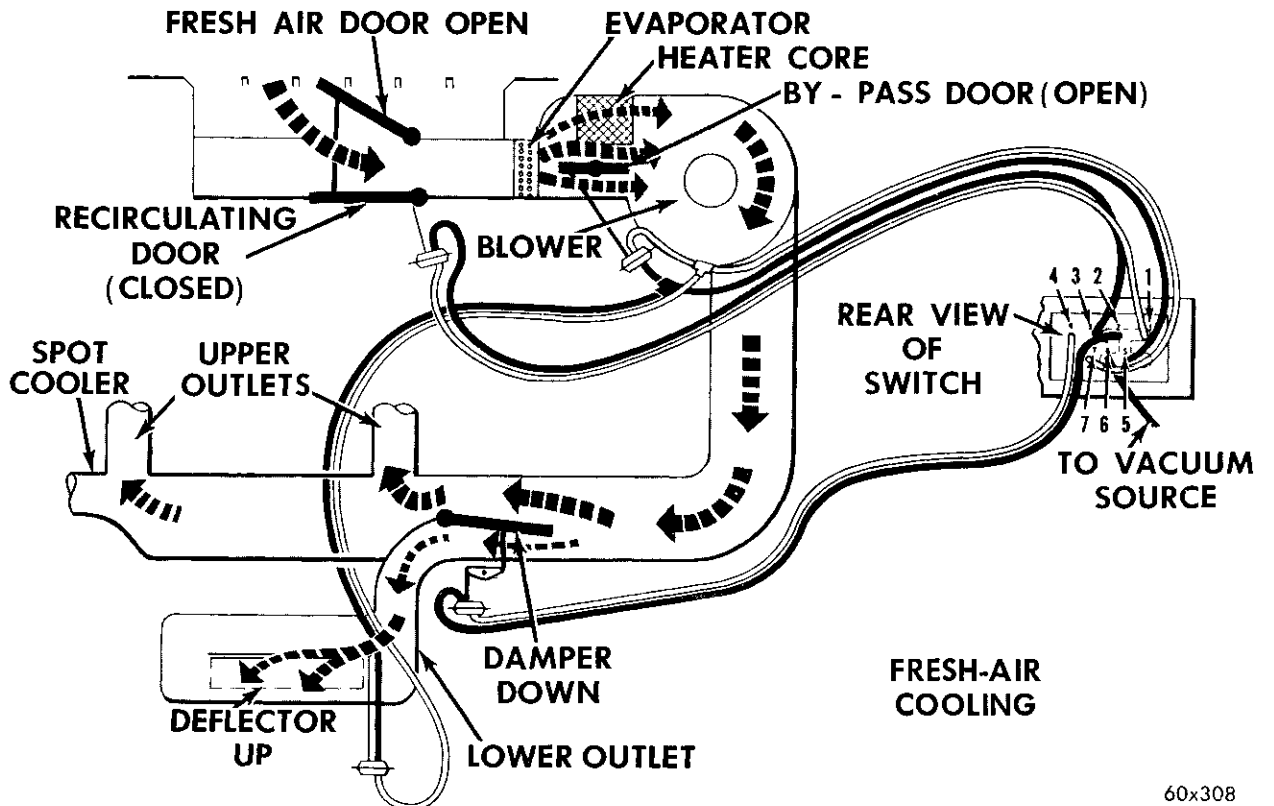

Fig. 8—Air Flow—Fresh Air Cooling—Chrysler and Imperial
**b. Air Flow—Fresh Air Cooling (Fig. 8)**